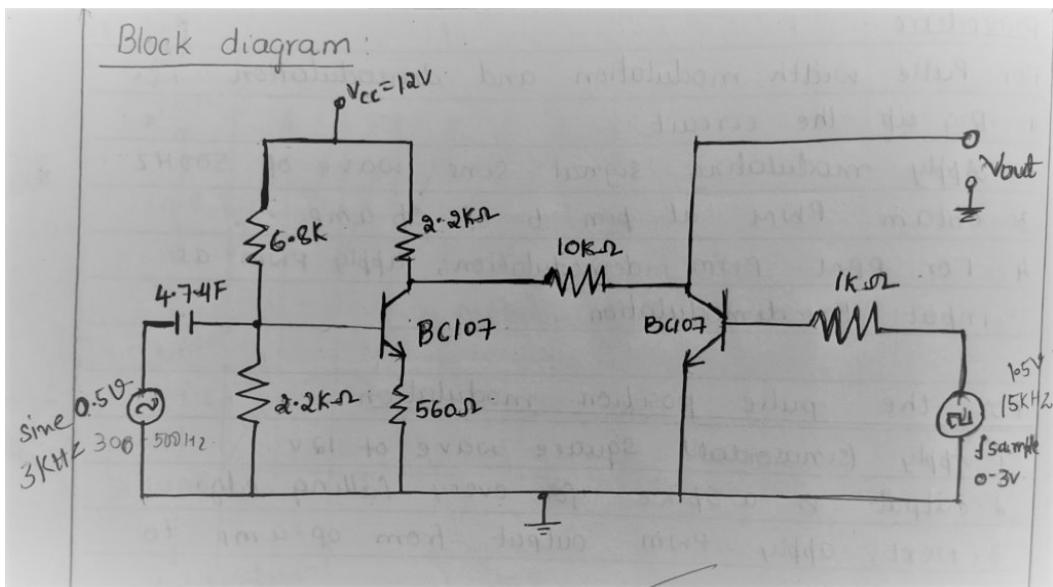

Fig 7a: PAM circuit diagram
8. PROCEDURE : <ul style="list-style-type: none">Connect the circuit as per the circuit diagram shown in the fig: 7a.Set the modulating frequency to 3KHz and apply 0.5V message signalSet the sampling frequency to 15KHz and apply 1.5V sampling signalObserve the o/p on CRO i.e. PAM wave.Measure the levels of Vmax & VminFeed the modulated wave to the demodulated circuit as in fig 7b.The output observed on CRO will be the demodulated wave.Note down the amplitude (p-p) and time period of the demodulated wave.Vary the amplitude and frequency of modulating signal.Observe and note down the changes in output.Plot the wave forms on graph sheet.